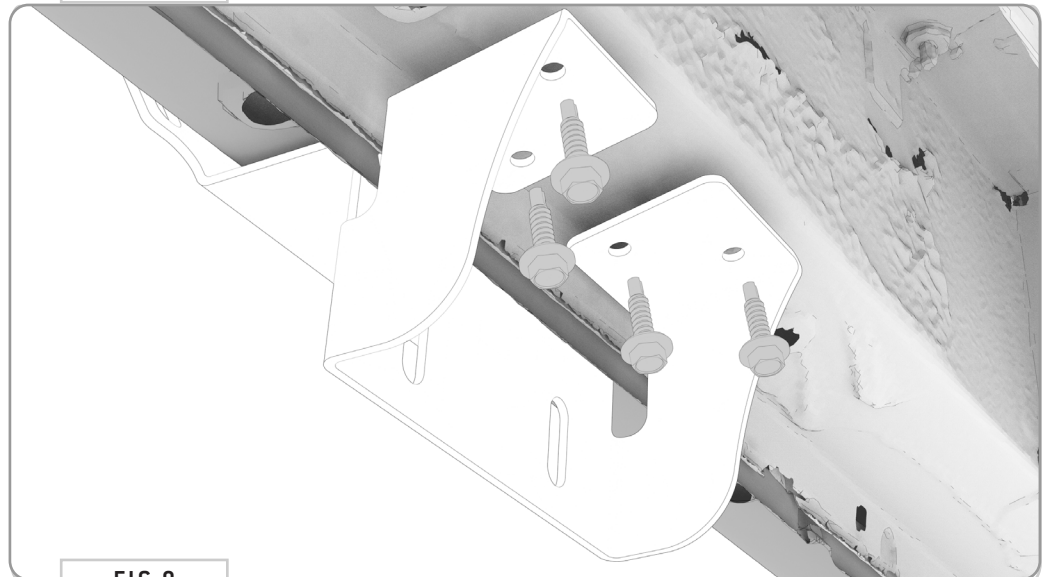

FIG 9
3.2 Secure Hangar Bracket: Secure **Hangar Bracket** to **Pinch Seam** using **(4) 1/4-20 x 1 Self-Tapping Screws** in the locations shown in **FIG 9**.